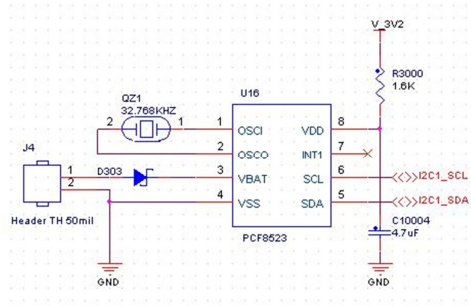

Figure3 RTC Generation Circuit using NXP's PCF8523
- f) Careful testing and measurement of component temperature must be made when enclosing the HummingBoard models with add-ons such as RTC battery, PCIe add-on, mSATA add-on or USB devices connected to internal USB ports. **RTC Backup Batteries have critical safety parameters such as temperature range and current rating that must NOT be exceeded.** RTC circuit is included in figure 3 for reference.